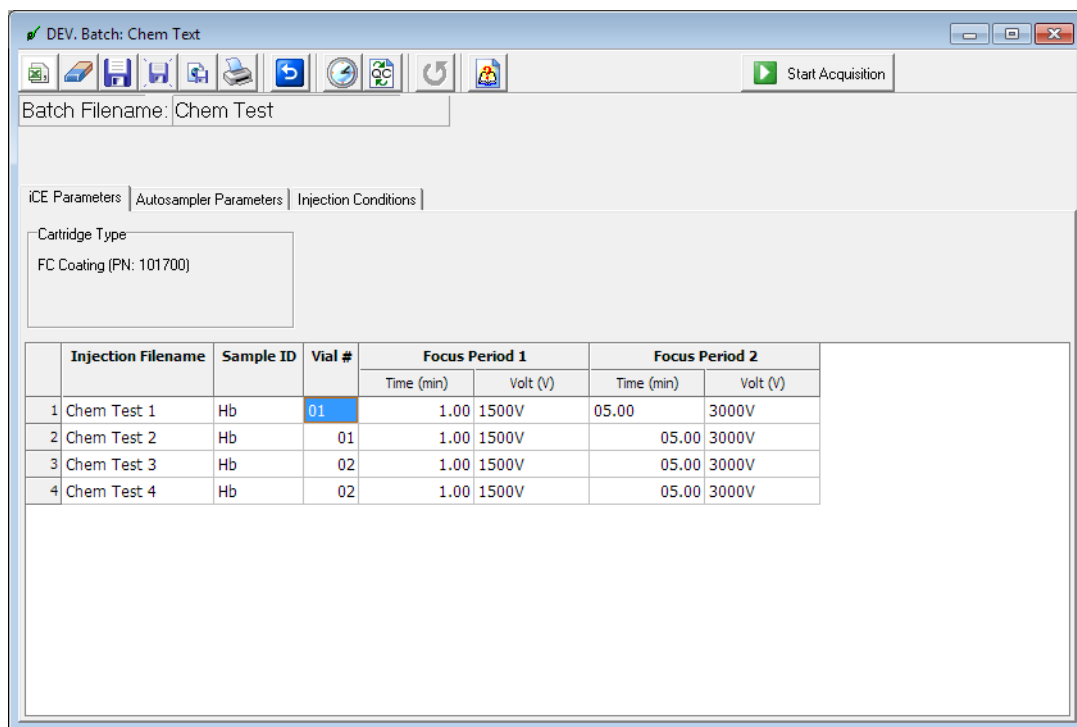

Figure 5-26: Example of a completed iCE Parameters table using four injections from two vials.
14. When all the information has been entered, you can move on to the next tab. An example of a completed iCE Parameters table is shown in Figure 5-26 and includes four separate injections from two individual vials: